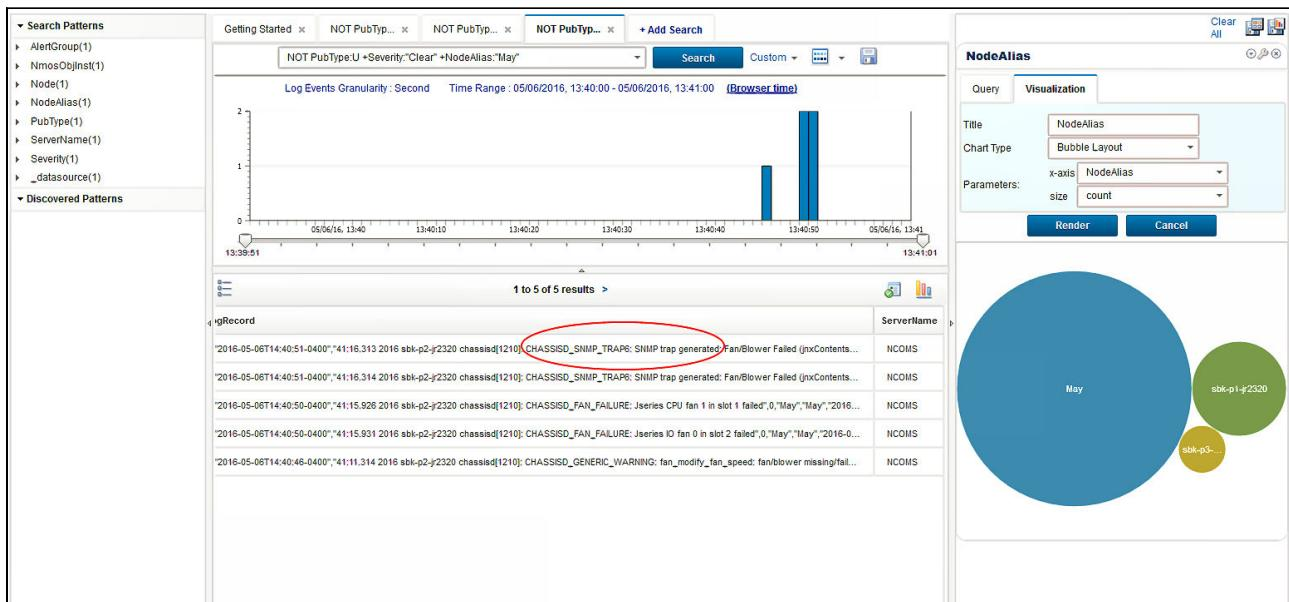

Figure 7-10 Bubble chart visualization
15. She selects the **spanner** icon on the right side of the chart. She then clicks **Chart type** and sees a drop-down menu of the charts to create. Now, she can experiment with chart types to get meaningful data; for example, the bubble chart that is shown in Figure 7-10.